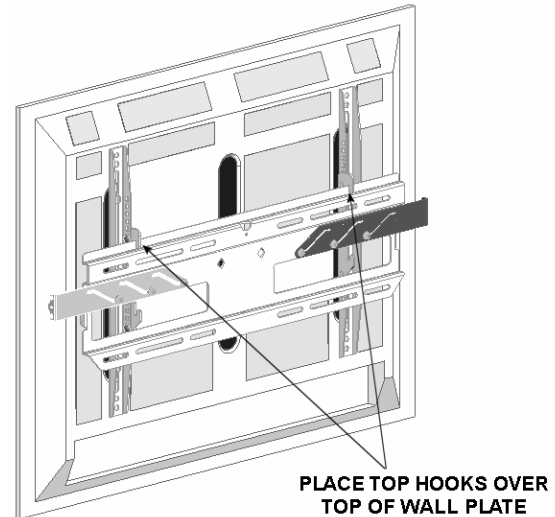
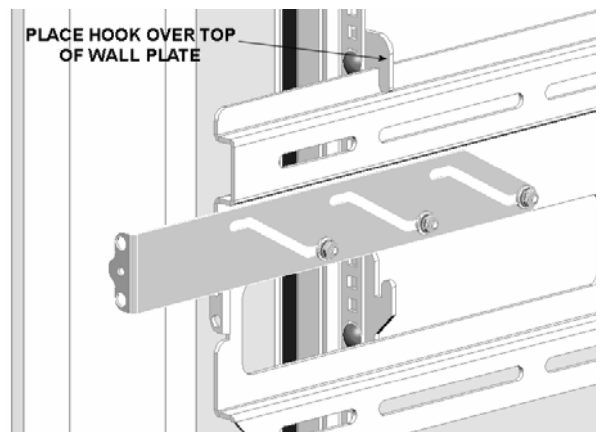

Figure 11. Hooks On Top (View 1)
Figure 12. Hooks On Top (View 2)
1. Place the display on the wall plate (10) by hooking the hooks (30) of brackets (20) in the top of the wall plate (see Figure 11 and Figure 12).